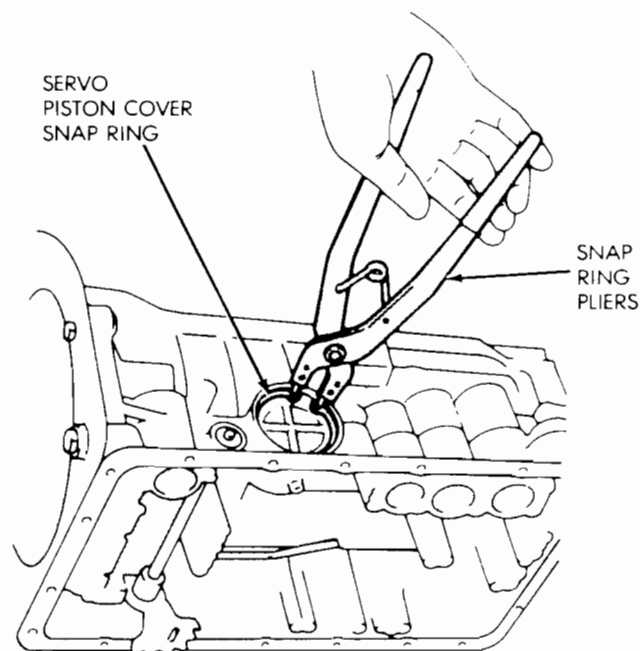

Fig. 33 Removing/Installing Servo Piston Cover Snap Ring
(1) Remove valve body as outlined in this section.
(2) Remove servo piston cover snap ring with snap ring pliers (Fig. 33).